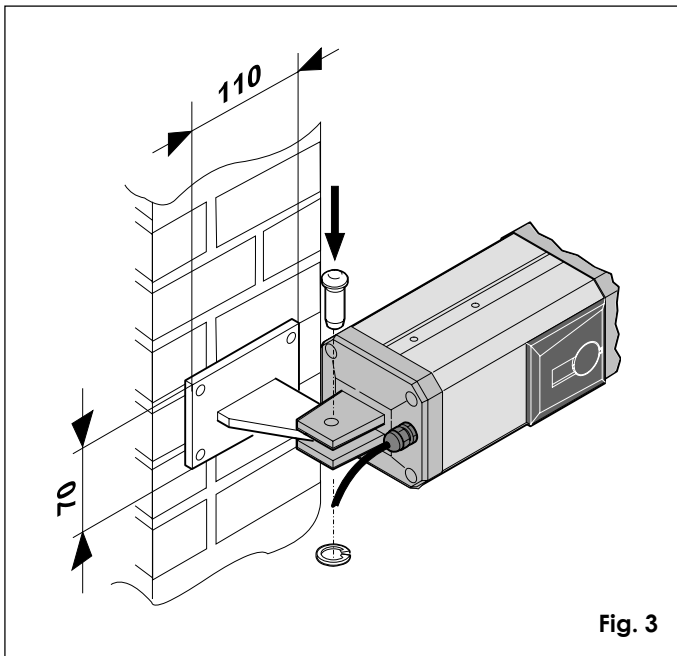

Fig. 3
In the case of brick/concrete gate posts, flush-mount a wall plate (fig. 3), and weld the bracket to the plate.
- 2) Fix the operator to the rear bracket by means of the screws supplied (fig. 3).